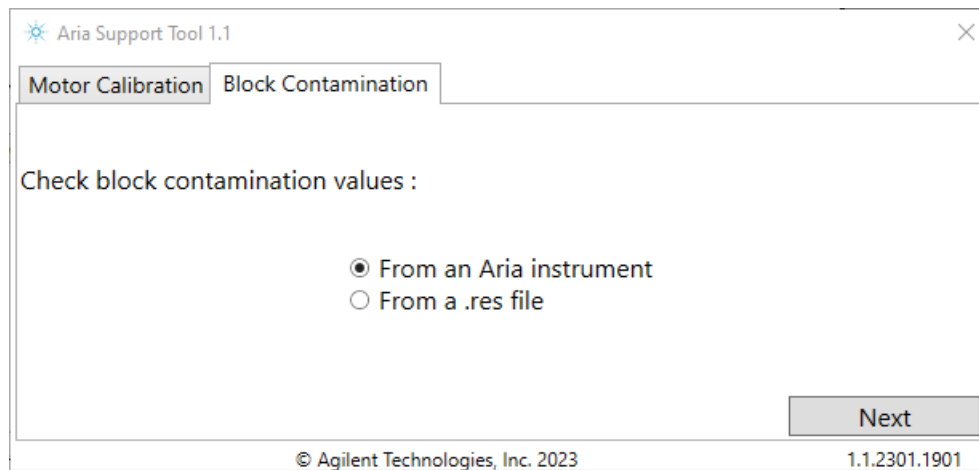

Figure 12 Block Contamination tab – select **From an Aria instrument**
- 2 Click the Block Contamination tab. Select **From an Aria instrument**. (See Figure 12.)